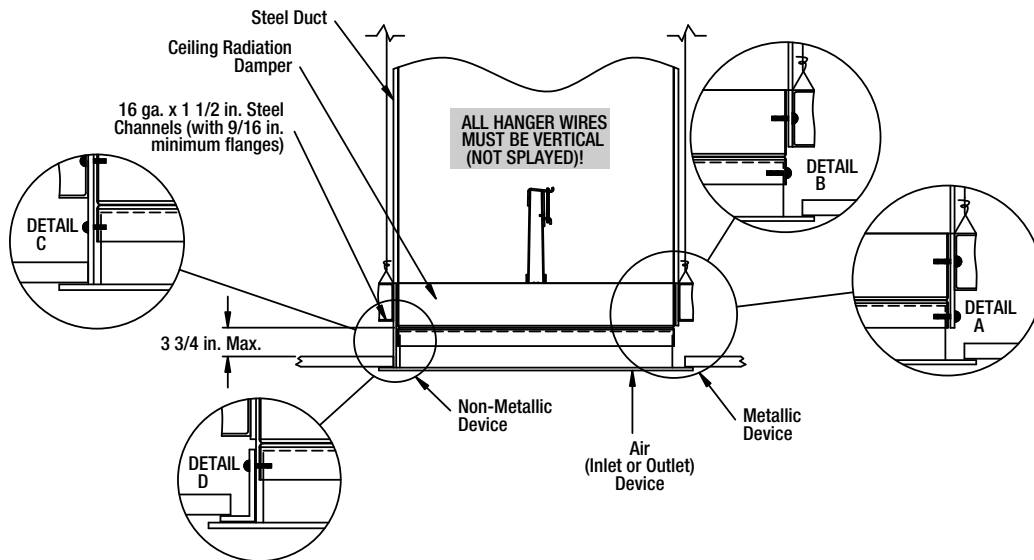

Figure 7
Ceiling radiation dampers and air inlet or outlet devices may also be supported directly from the structure above using one or more of the methods described in **Figures 7, 8, 9, or 10**. When channels are to be used as support, they must be 16 ga. x 1 1/2 in. steel channels with 9/16 in. minimum flanges (2 required per damper on opposite sides). Air device flange must overlap the ceiling membrane by a minimum of one inch.
1. Ceiling radiation damper and air device neck may be connected directly to the duct drop (see **Detail A, Figure 7**).
2. Ceiling radiation damper may be connected directly to the air device neck and then the duct drop connected to the damper (see **Detail B, Figure 7**).
1. The steel duct drop should extend to the bottom surface of the ceiling membrane and the opening in the ceiling membrane (see General information, Ceiling Penetrations) should be equal to the outside of the duct drop (see **Detail C, Figure 7**). Models CRD-1, CRD-1LP, CRD-2, and CRD-60 may be installed as shown in **Figure 7** (Model CRD-1 & CRD-1LP illustrated).
2. A steel angle should be attached to the bottom of the ceiling radiation damper and span the gap from the ceiling radiation damper to the bottom of the ceiling membrane (see **Detail D, Figure 7**).
Models CRD-1, CRD-1LP, CRD-2, and CRD-60 may be installed as shown in **Figure 7** (Model CRD-1 & CRD-1LP illustrated).